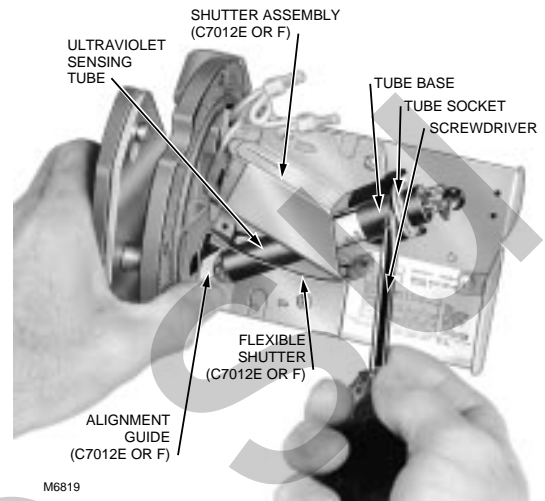

Fig. 20. Replacing ultraviolet radiation sensing tube.
**Replacing the Ultraviolet Sensing Tube, all Models (Fig. 20)**